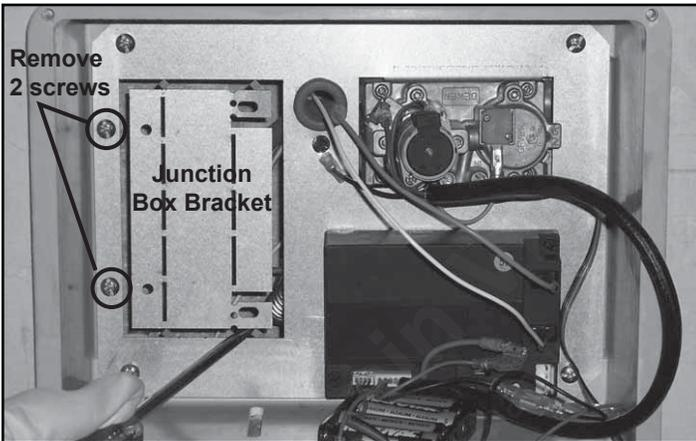
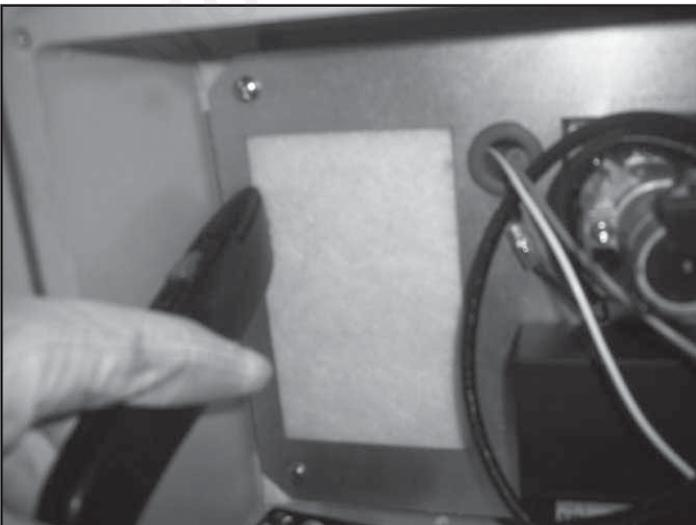

Figure 6.4 Remove Junction Box Bracket & Two Screws
Figure 6.5 Cut and Remove Insulation
- Remove the junction box bracket by prying loose with a screwdriver. Remove the two screws shown in Figure 6.4. Cut out and remove insulation from behind junction box bracket as shown in Figure 6.5.
- Place junction box into the control box, matching holes as shown, and fasten with the two screws removed in Figure 6.4.